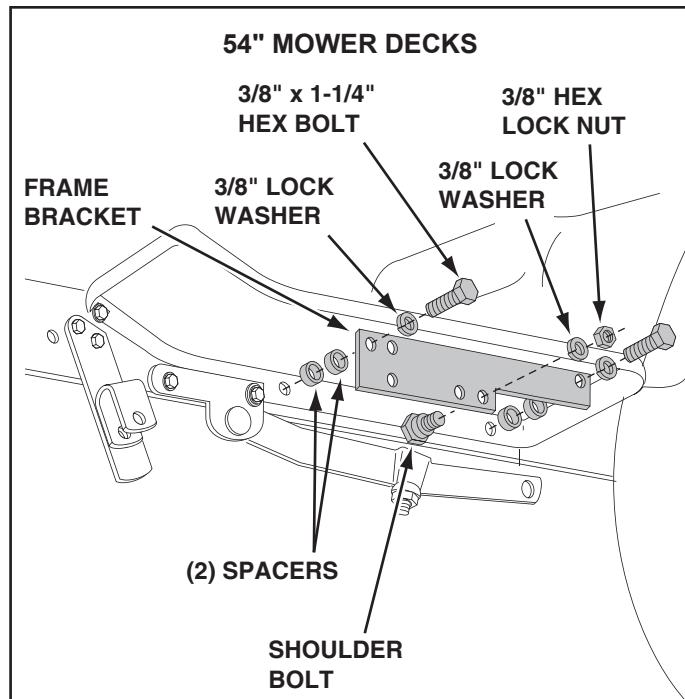

FIGURE 10
- Assemble a frame bracket to the L.H. foot rest as shown in figure 10. Use two 3/8" x 1-1/4" hex bolts, four spacers (2 per bolt) and two 3/8" lock washers.
- Assemble a shoulder bolt to the inside of the frame bracket, securing it with a 3/8" lock washer and a 3/8" hex lock nut. See figure 10.